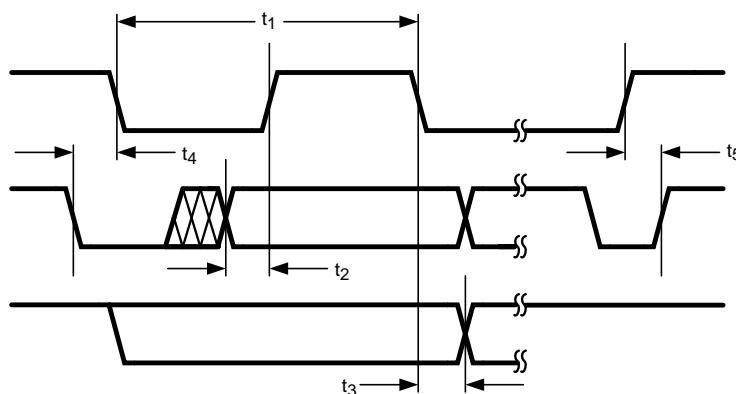

Figure 4. I²C Timing
I²C Compatible Timing Specifications (SCL, SDA, VIO, see Figure 4) ^{(5) (4)}